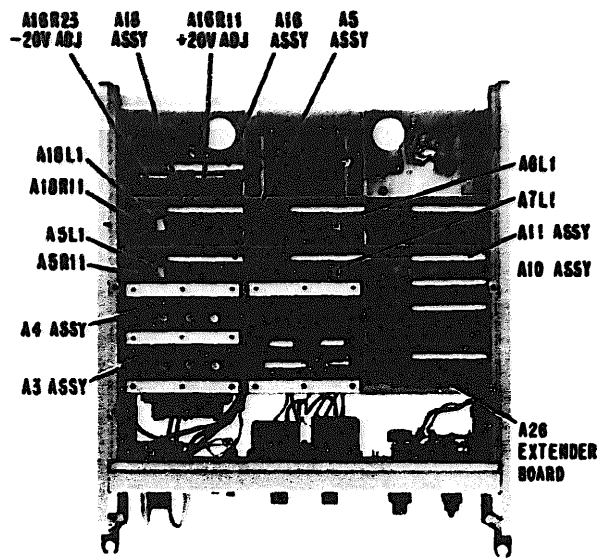

Figure 2A. Adjustment Locations
- a. Remove top cover and refer to Figure 2A.